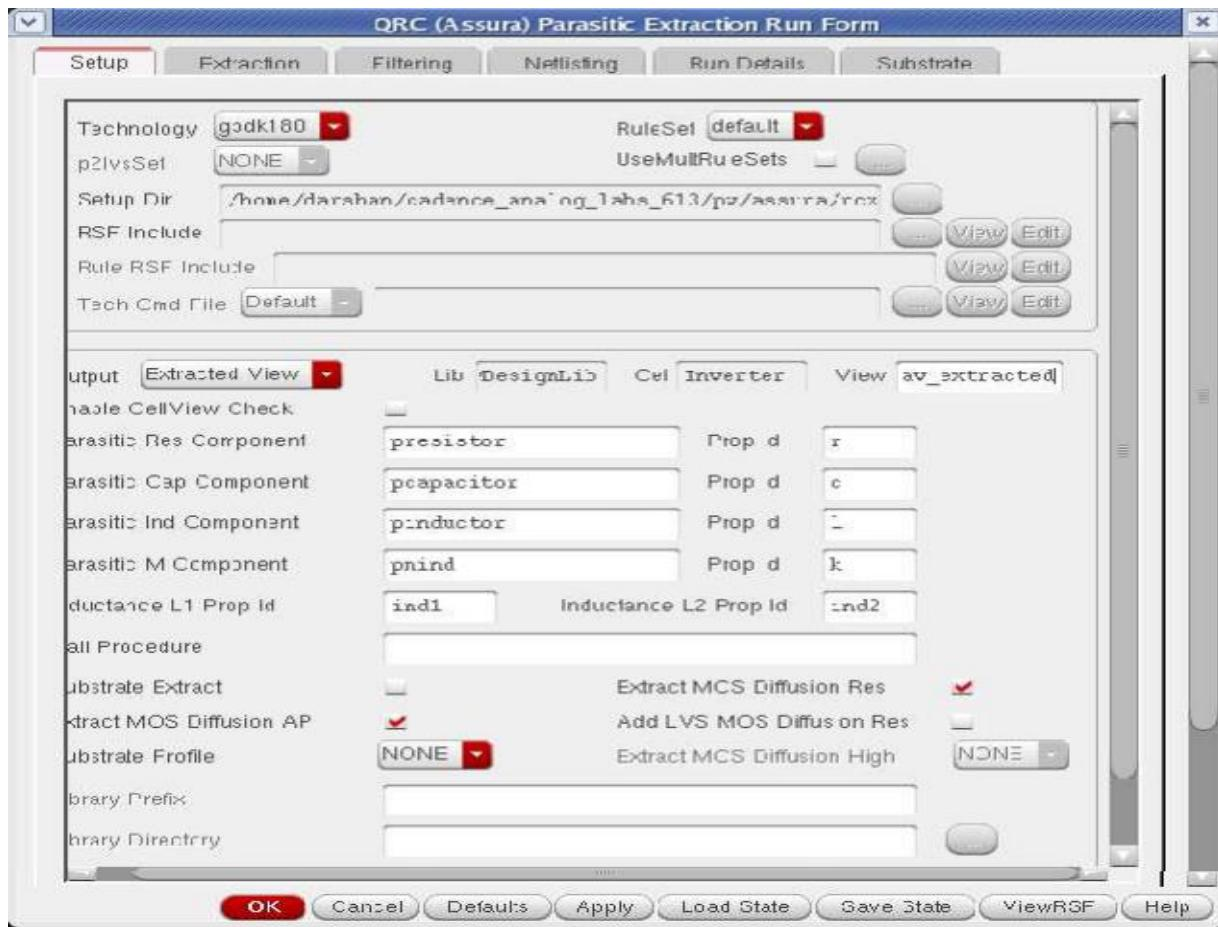

Figure1.25: Parasitic extraction Run Form
2. Set the Assura parasitic extraction form as shown in the figure1.25. Select output type under Setup tab of the form.